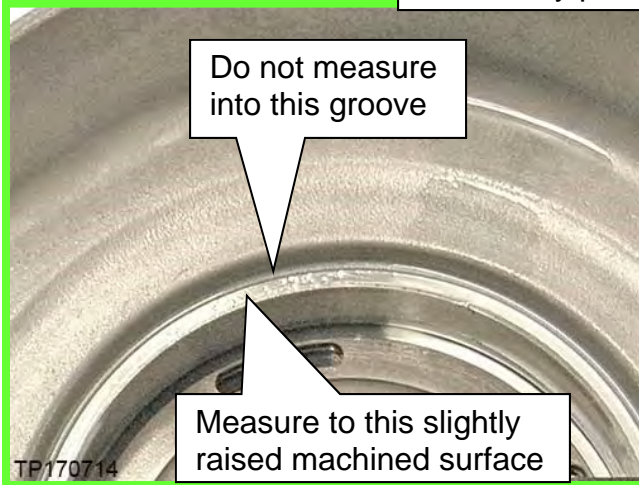
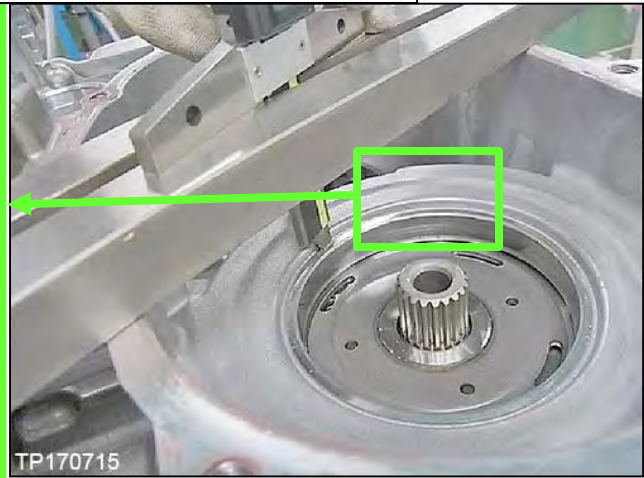

Figure 134
Figure 135
- a. Measure between the top of the Gauge Block (J-50271) to where the snap ring on the secondary pulley bearing seats in three (3) locations to calculate the average value, "Y". Refer to Figure 134 and Figure 135.